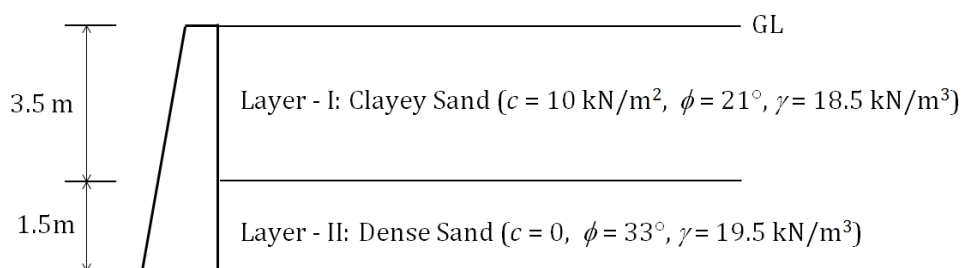

Fig.2
7. (a) For the retaining wall shown in Fig.2, determine the magnitude and point of application of the resultant active thrust above the toe of the wall.